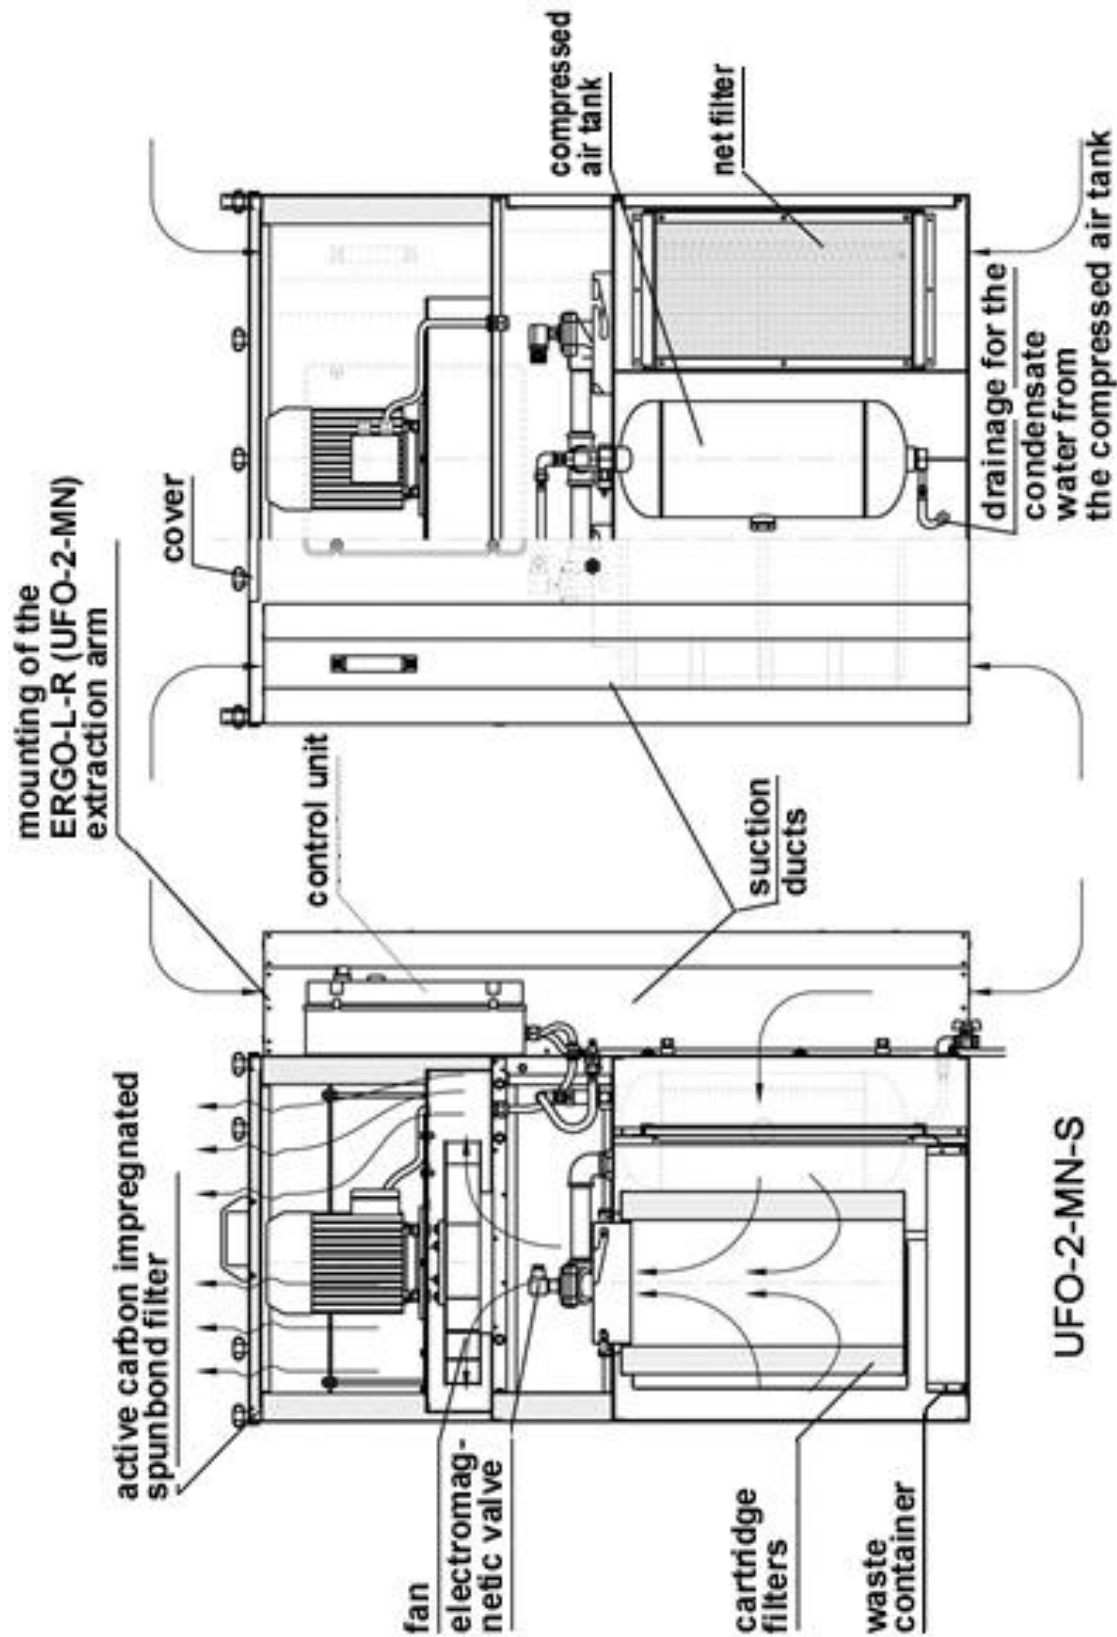

Fig. No.1a
- suction ducts (see **Fig. No.1a**) is plugged at the bottom, the ERGO extraction arm must be fastened at the top of the suction ducts.